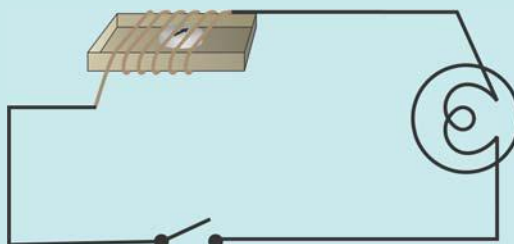

Fig. 14.24
7. Will the compass needle show deflection when the switch in the circuit shown by Fig. 14.24 is closed?